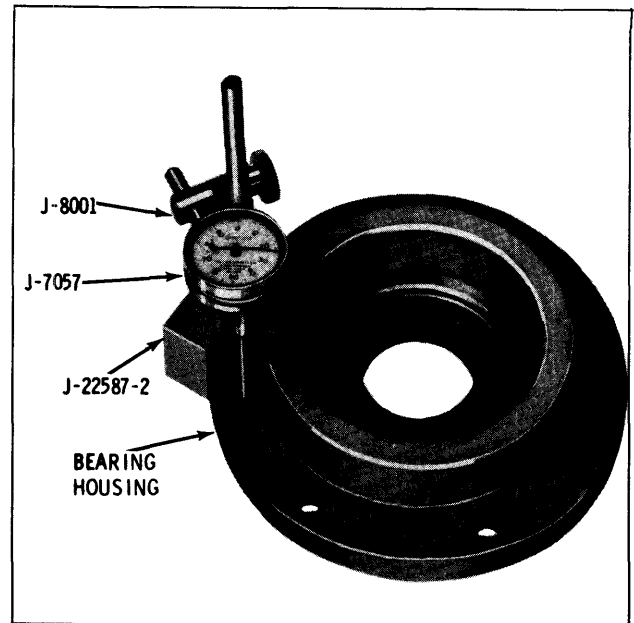

Fig. 3EC-49 Checking Outer Flange of Housing
- Tool 22587-2. (Fig. 3EC-48) While holding contact studs (three) of Tool J-22587-2 firmly against shoulder of bearing housing, position dial indicator as shown in Fig. 3EC-48 and rotate dial to ZERO.